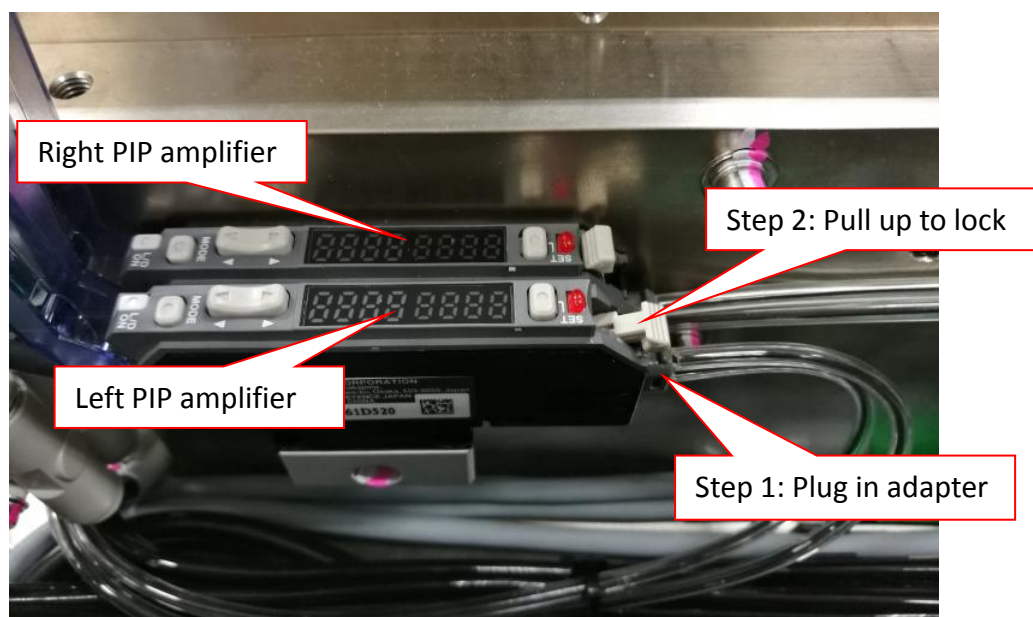

Figure 19 PIP Sensor Amplifier
11. Plug adapter to Left Amplifier & lock as shown in Figure 19.